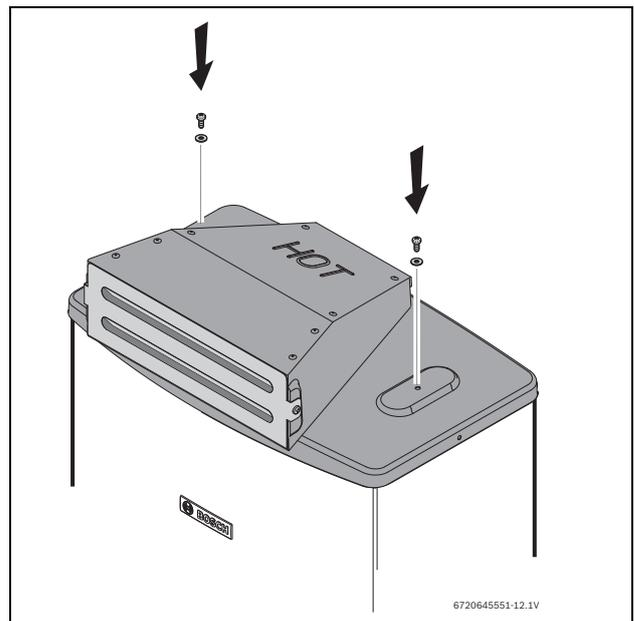

Fig. 11
- ▶ Attach the outdoor vent cap to the appliance by fastening the two provided screws and washers, see Fig. 11.